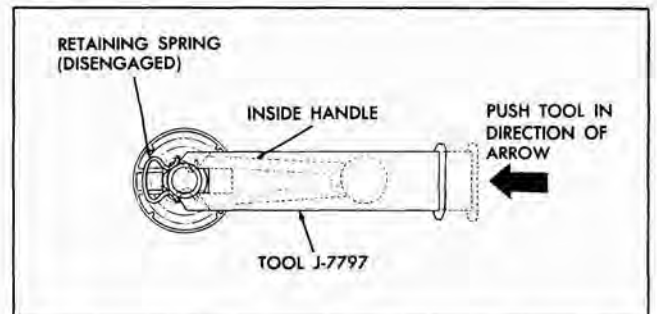

Fig. 3-10 Handle Retaining Spring
2. Push handle retaining spring out of engagement and remove handle and bearing plate from door (Fig. 3-10).
2. Position handle on spindle at same angle as handle on opposite door and push handle until spring is engaged (Fig. 3-10).